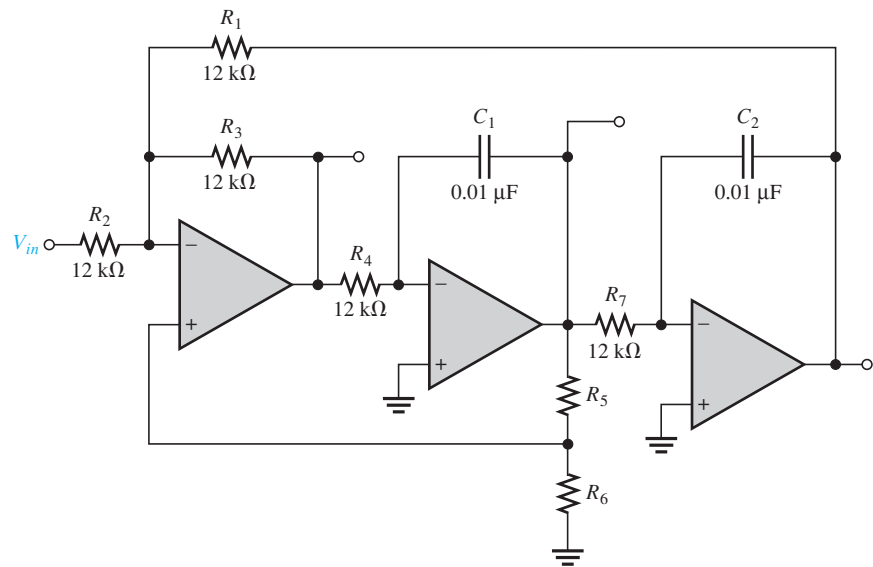

FIGURE 9-34
- 20. Optimize the state-variable filter in Figure 9-34 for $Q = 50$. What bandwidth is achieved?
21. Show how to make a notch (band-stop) filter using the basic circuit in Figure 9-34.